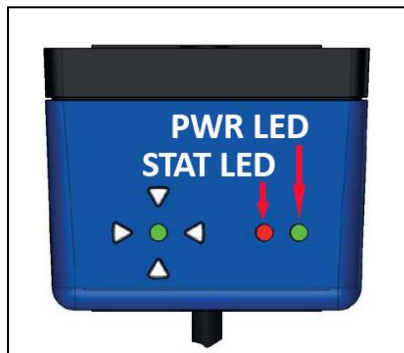

Figure 2-16: LED Array on APS Camera
- Make the fine adjustment of the camera using the LED array on the top of the APS camera. See Figure 2-16.